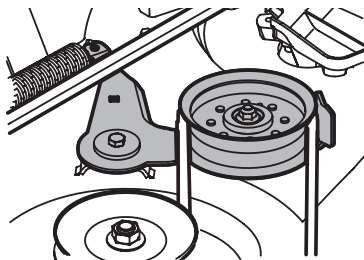

Figure 40
8. Working on the right side of the tractor, insert a 3/8" drive ratchet wrench, set to **tighten**, into square hole found on the idler bracket. See Figure 40.
9. Pivot the wrench forward to move the deck drive pulley forward. See Figure 40.